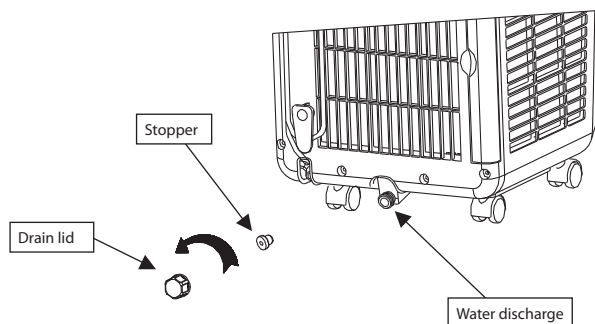

Fig. 19
Manual draining: (see fig. 19)
1. Unscrew drain lid in the direction indicated by arrows and remove the stopper (fig. 19).